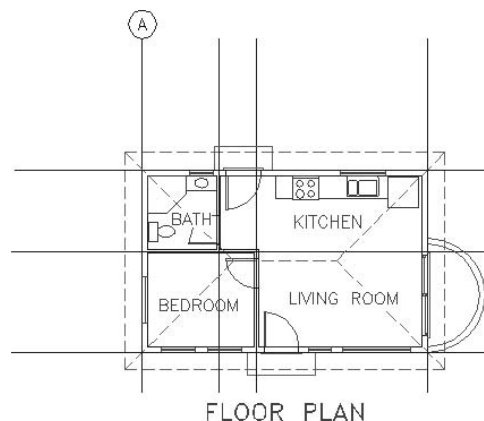

FIGURE B.5: The first grid symbol block is inserted.
6. The grid symbol is inserted at the endpoint of the leftmost vertical grid line (see Figure B.5).